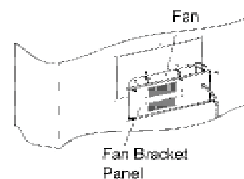

Figure 20- Fan
2. Mark or tag each wire removed for its exact reconnection. Remove the four screws from the fan. When installing, reverse the steps above. (See Figure 20 and Figure 22)